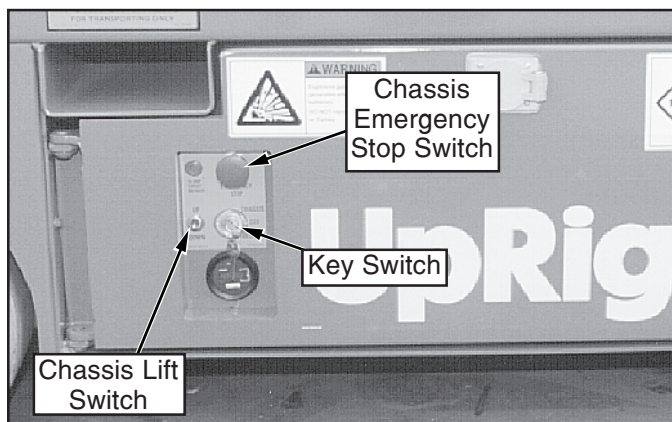

Figure 1: Chassis, Right Side
9. Turn Chassis and Platform Emergency Stop Switches ON (Figure 1 & 2) by pulling the button out.
10. Turn the Chassis Key Switch (Figure 1) to **CHASSIS**.
11. Push Chassis Lift Switch (Figure 1) to **UP** position and fully elevate platform.